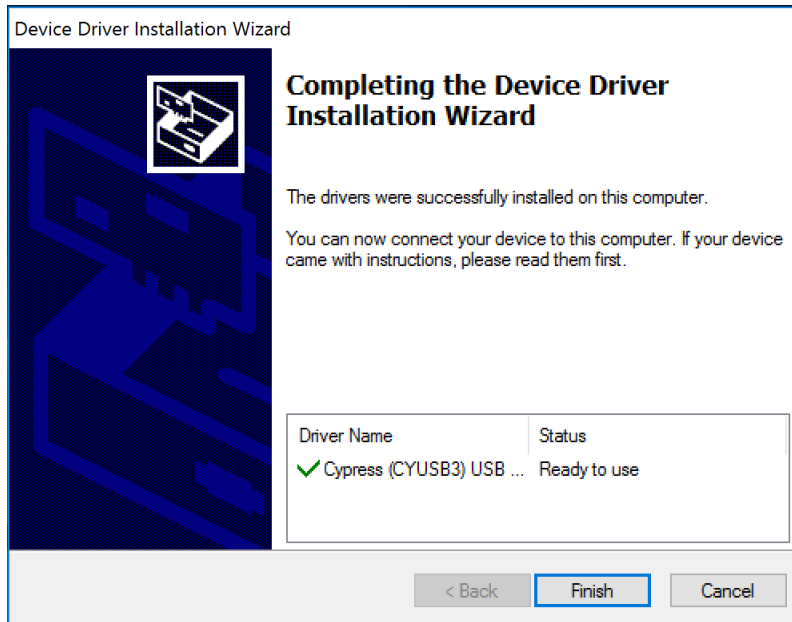

Figure 29. HSDC Pro Install (Continue Driver Installation)
- Click *Finish* to continue installation, as shown in Figure 29.